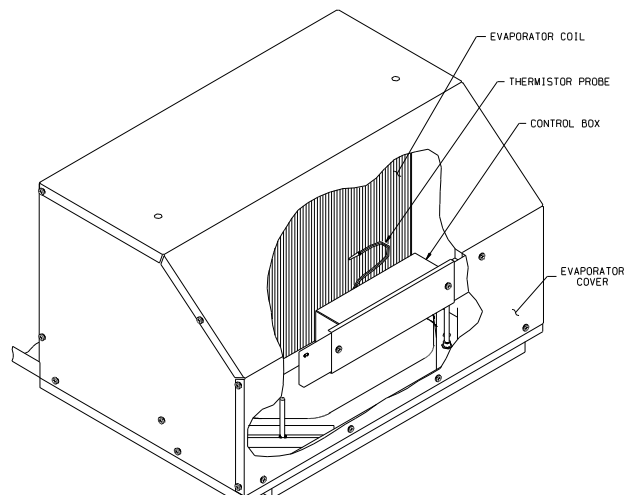
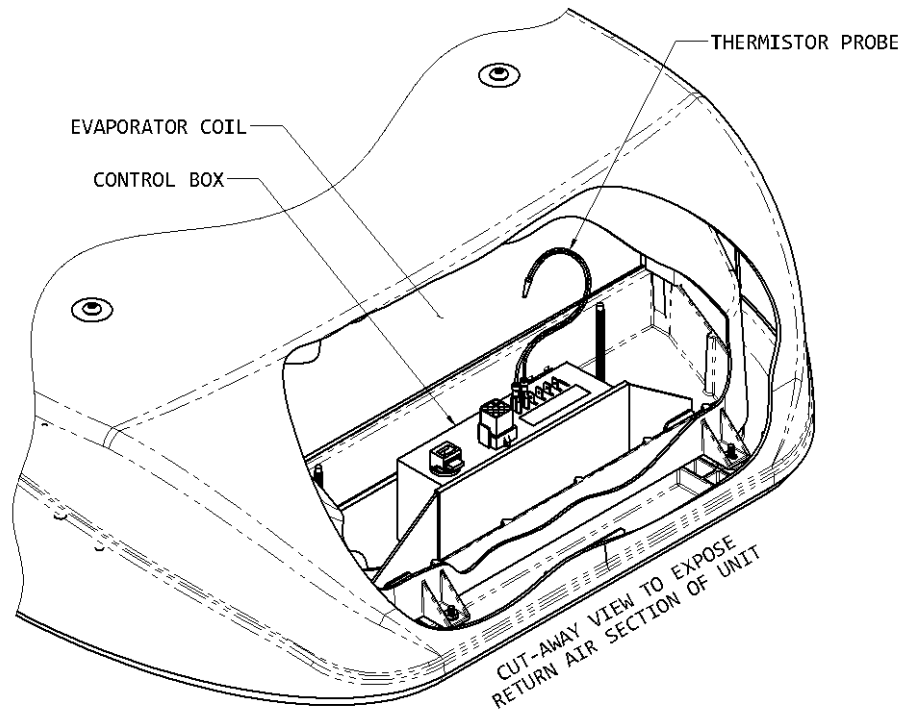

FIGURE 2
FIGURE 9
6. Locate the two machine screws inside the evaporator cover of the upper unit. Align the control box over the screws and use the wing nuts supplied with the control box to secure it to the upper unit enclosure. See Figure 2 for control box orientation in 48000 and 49000 series units. See Figure 9 for 47000 series units.
7. Insert the evaporator freeze sensor between evaporator fins near the bottom center of the evaporator and between the bottom two tubes (See Figure 2). Insert straight in until contacting the staggered tube directly in back of the insertion point. When contact has been made, elevate the exposed end of the sensor approximately 45 degrees, then continue insertion at a 45 degree angle until the sensor is completely embedded into the evaporator.
Position the control box over the screws and use the wing nuts to fasten the control box to the upper unit enclosure. For 47000 series units, refer to Figure 9 on page 13. Note that the box is installed with the wiring exiting upwards. See Figure 2 for 48000 & 49000 series units.
Insert the evaporator freeze sensor between evaporator fins near the bottom center of the evaporator and between the bottom two tubes (See Figure 2). Insert straight in until contacting the staggered tube directly in back of the insertion point.